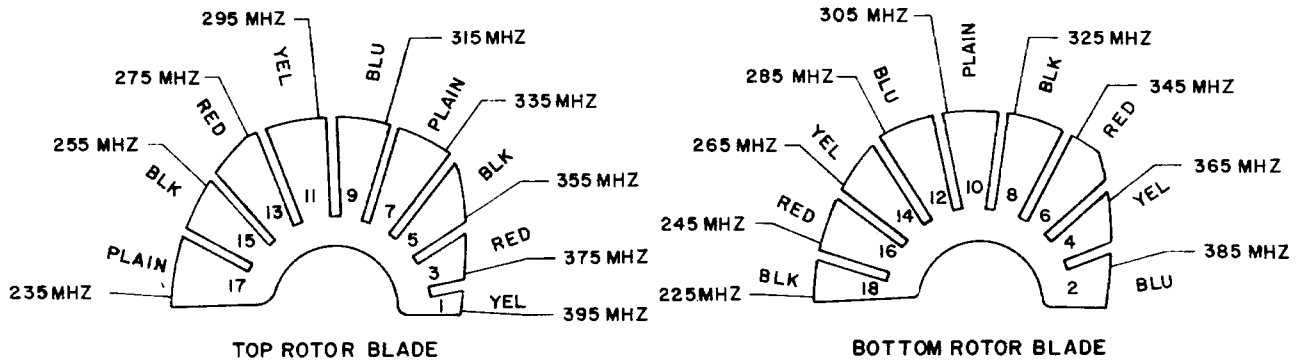

Figure 5-26. RF and Power Amplifier Module, Tuning Capacitor Rotor Tab Z1, Z4, and Z5, Adjustment Diagram
- (f) Bend rotor blade segment which has just come into mesh with stator on tuned circuits Z4 and Z5 for a maximum indication on AN/URM-43C (figures 5-26 and 5-27).